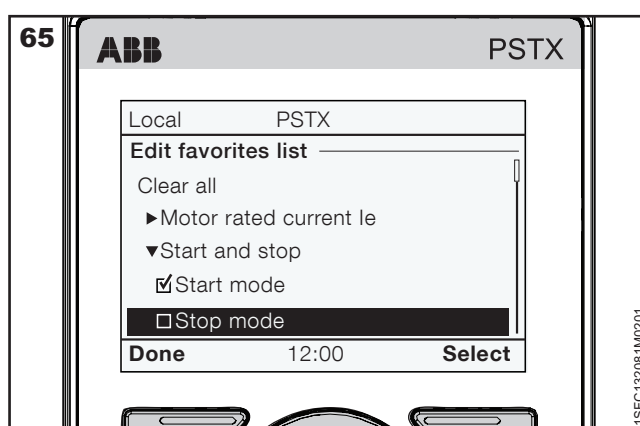

Figure 65: Favorites menu
3. Press  "Select" to select parameters. A checkmark will be shown by the selected parameter, press  "Unselect" to unselect the parameter. Press  "Done" to save and exit. See **Figure 65**.